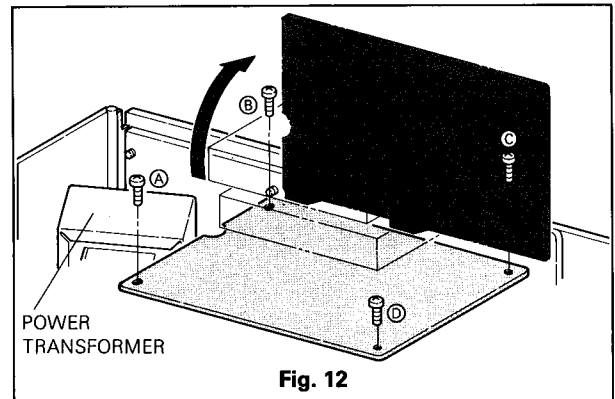

Fig. 12
- Remove the four screws (A) (B) (C) and (D) retaining the PCB TUNER as shown in Fig. 12.
- For ease in servicing, affix the tuner onto the stopper on Antenna terminal board, as shown in Fig. 12.